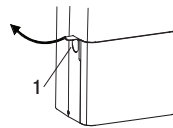

Figure 1
- Uncover the connector cover on the side of the unit (1). (Figure 1)